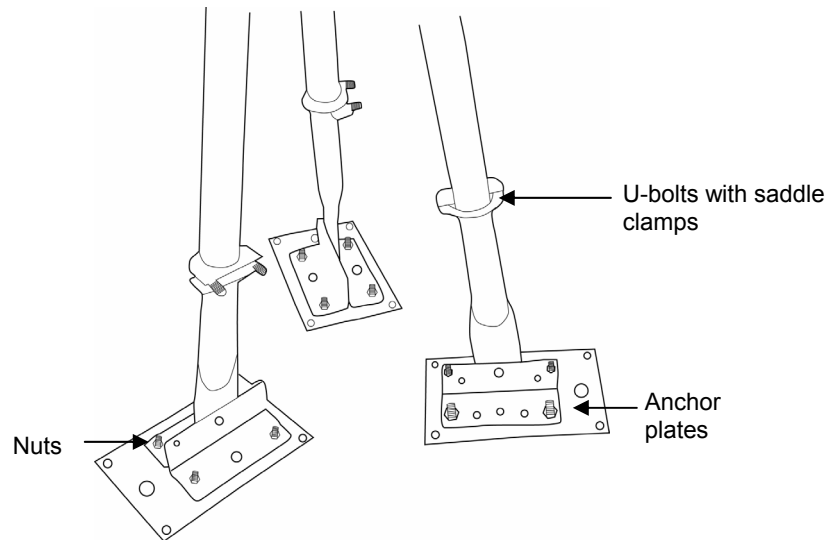

Figure 11: Three meter lower tripod
1. Using 5/16 inch nuts, attach the three anchor plates to the three tripod foot brackets, with the large holes to the outside (see Figure 11). Tighten the nuts securely.